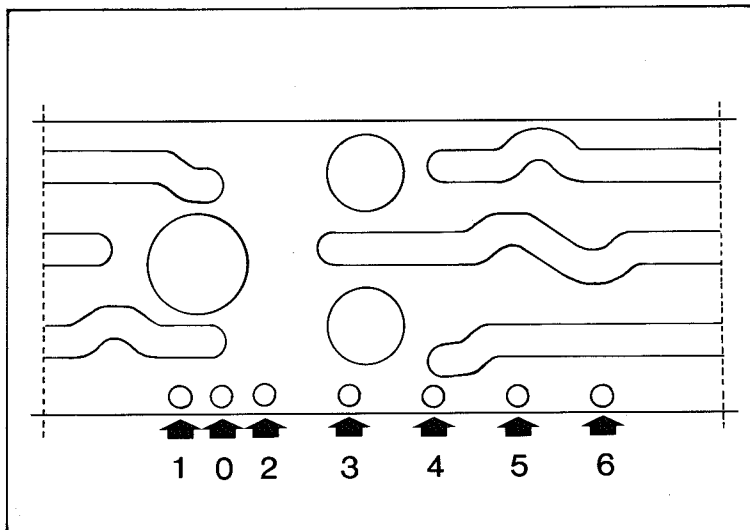

Fig. 19
19. The shifting drum is held in the various gear positions by means of its ratchet sleeve. The various locating positions of ratchet sleeve on the shifting drum will be evident from Fig. 19.